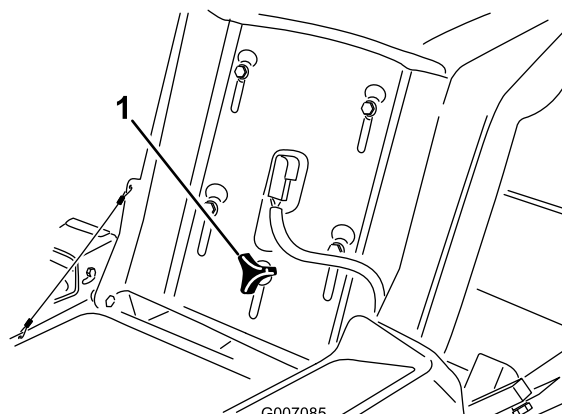

Figure 19
1. Raise the seat and loosen the adjustment knob just enough that seat can move (Figure 19).